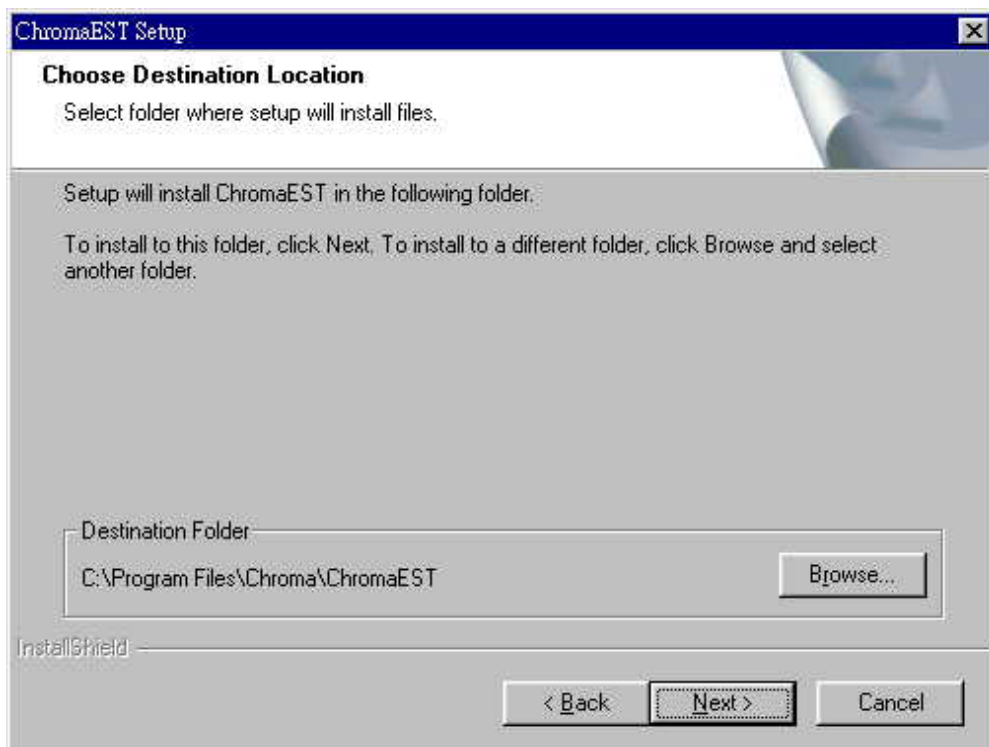

Figure 2-5 Chroma EST Setup Screen 4
4. Press **Next >** button to select the folder where install file (Figure 2-5). If you don't select folder, the installation program will setup a default folder for Chroma\ChromaEST system software in C: \Program Files automatically. Thus, all related programs and files are installed in this folder. Press **Next >** button directly is recommended.